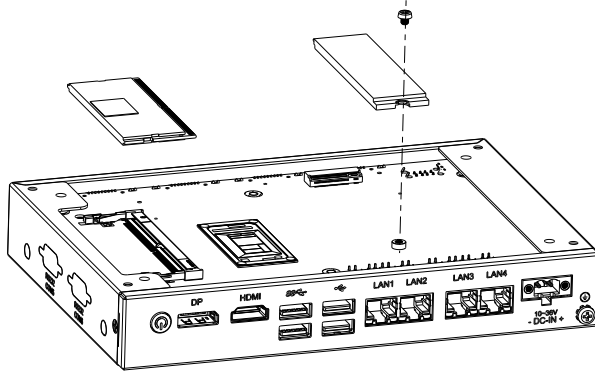

Figure 3-2-1
1. M.2 2280 module: remove 1 pan-head M3x3 screw, as shown in Figure 3-2-1